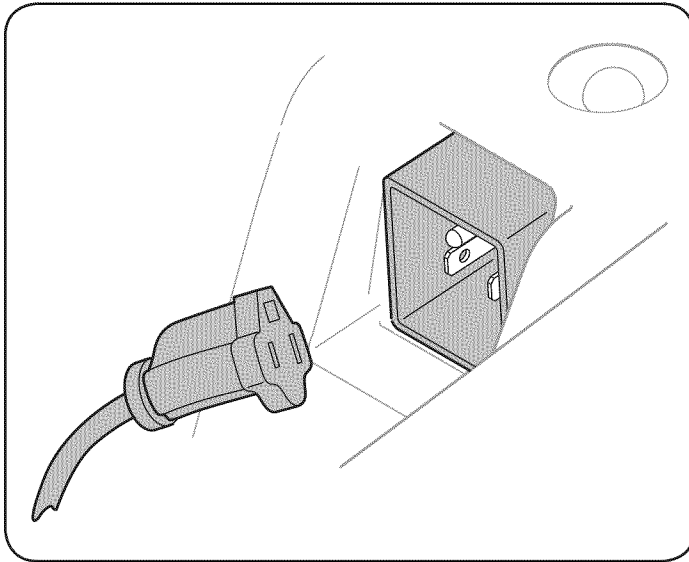

Figure 9
3. Plug the extension cord into the electric outlet located on the plastic shroud. Plug the other end of extension cord into a three-prong 120-volt, grounded, AC outlet in a well-ventilated area. See Figure 9.
1. Insert the ignition key fully into the slot, Figure 9. Make sure it snaps into place. DO NOT turn the ignition key. The engine cannot start unless the key is inserted into the ignition switch.